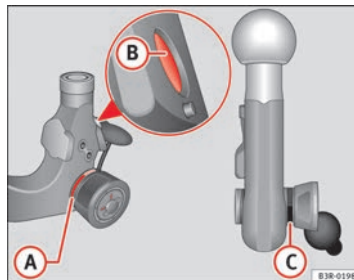

Fig. 154 Removable tow-
- Check that the red marking (A) ⇒ fig. 154 on the knob is inside the black zone marked on the ball joint.
- Check that the locking pin (B) is inside the holes in the shaft section of the ball joint.
- Check that the knob protrudes visibly from the ball joint, so that there is a clear gap (C) between the knob and the ball joint.